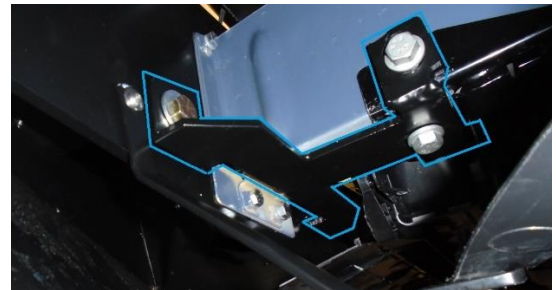

Figure 18: Installed Mounting Bracket
20. Reinstall the factory hardware through the supplied mounting brackets and through the factory crossmember brackets. Do not tighten hardware yet; allow the mounting bracket some play until entire bumper is mounted. Reference Figure 18.